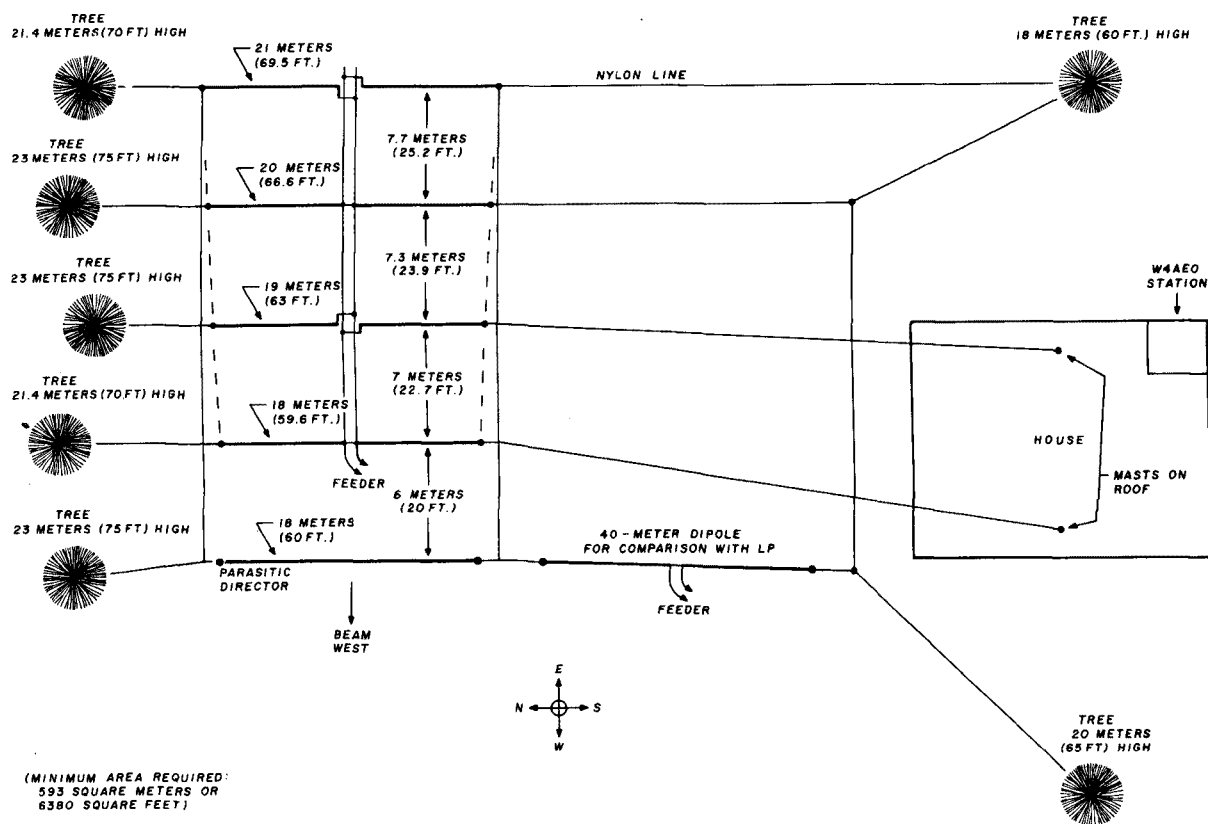

fig. 2. Author's 40-meter LP west beam using four driven elements and a director. A dipole was added for comparison in the 40-meter tests described in the text.
to the sides allowed the addition of a parasitic director as shown in fig. 2. Paul, W6PYK, estimated that this director should add about 1 dB additional gain.\*
Fig. 2 also shows the method of suspending the 40-meter LP. (Also added later was a 40-meter dipole
- 3) the dipole shown in fig. 2;
The two lines shown on either side of the 40-meter LP (fig. 2) aren't support catenaries; they're merely spacing lines of nylon to keep the ends of the elements parallel. This gives the same spacing as determined by the center feeder.